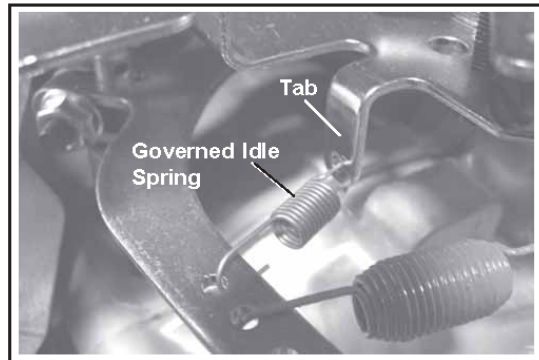

Figure 18. Governed Idle Spring Location.
An optional governed idle control system is supplied on some CH18-740 engines. The purpose of this system is to maintain a desired idle speed regardless of ambient conditions (temperature, parasitic load, etc.) that may change. Engines with this feature contain a small secondary spring connected between the governor lever and the lower adjustment tab of the main bracket. See Figure 18.
3. Release the governor lever and allow the engine to return to the governed idle speed. Check it with a tachometer against the equipment manufacturers recommended idle speed. Governed Idle Speed (RPM) is typically 300 RPM (approximate) higher than the low idle speed. If adjustment is necessary, bend the adjusting tab on the speed control assembly to set. See Figure 18.
An optional governed idle control system is supplied on some CH750 engines. The purpose of this system is to maintain a desired idle speed regardless of ambient conditions (temperature, parasitic load, etc.) that may change. Engines with this feature contain a small secondary spring connected between the governor lever and the lower adjustment tab of the main bracket. See Figure 18. Refer to the same adjustment procedure covered in **Models with Governed Idle System** for the CH18-740 models on page 15, when adjustments are required.